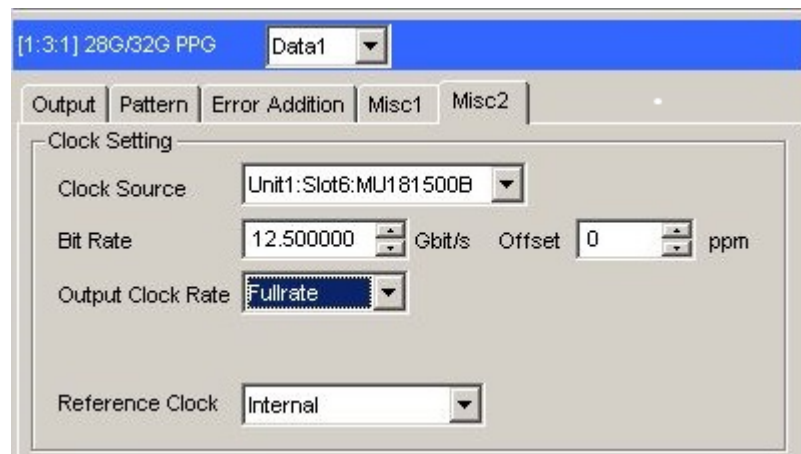

Figure F.3-2 Output Clock Rate Setting on the Misc2 Tab of MU183020A
4. Use a coaxial cable (applicable part, 1.3 m, K connector) to connect MU183020A's **Clock Output** connector and MP1825B's **Clock Input** connector. Then, on the **Misc2** tab of MU183020A, select **Fullrate** in the Output Clock Rate box. (Figure F.3-2)